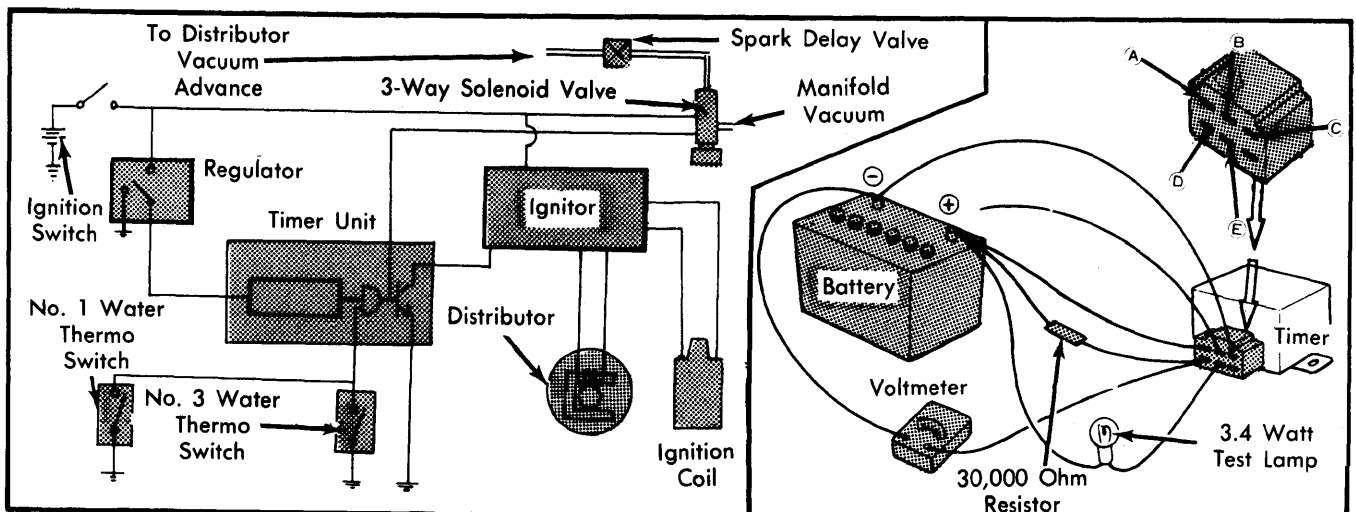

Fig. 8 Schematic of GLC Dual Timing System and Voltmeter Hookup for Timer Test
The GLC utilizes a dual timing ignition system to control spark timing. The system consists of two water thermo switches and a timer unit. See Fig. 8. Within a 2 minute period after starting the engine, timing is retarded when the coolant temperature range is 50-122° F (10-50° C). Advance timing is 5° BTDC; retard timing is 1° BTDC. As the engine warms to normal operating temperature, timing will advance to 5° BTDC.
1) To check timer (located under instrument panel on left side panel), connect wires to terminals "A", "B", and "C" of timer. See Fig. 8. Connect a wire with a 30,000 ohm resistor to terminal "D". Connect a wire with a 3.4 watt test lamp to terminal "E". Connect a voltmeter to terminal "D" and to negative battery terminal.